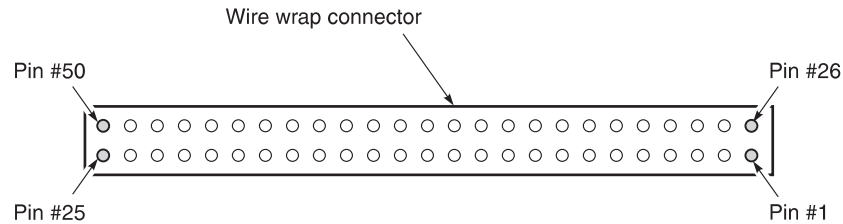

Figure 9. Subscriber Line Termination
8.7 Subscriber Lines. Connect the subscriber circuits to the wire-wrap terminations (Figure 9):